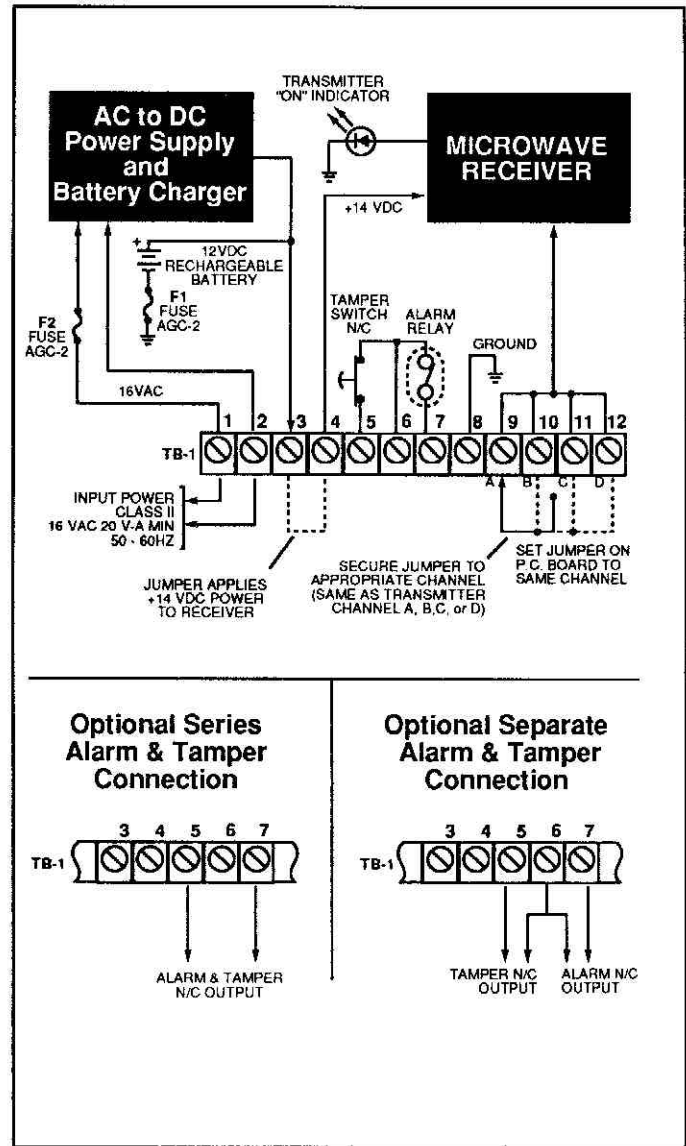

Figure 4: Receiver Interconnection
- b. Receiver (see Figure 4). If separate tamper reporting is required, two twisted, shielded pair of signal lines are required from the receiver to the alarm reporting panel. If a separate tamper indication is not required, one pair of wires can be used to indicate either an alarm or a tamper. Alarm and tamper signal wires must be twisted, shielded pairs to prevent the induction of noise on these lines.